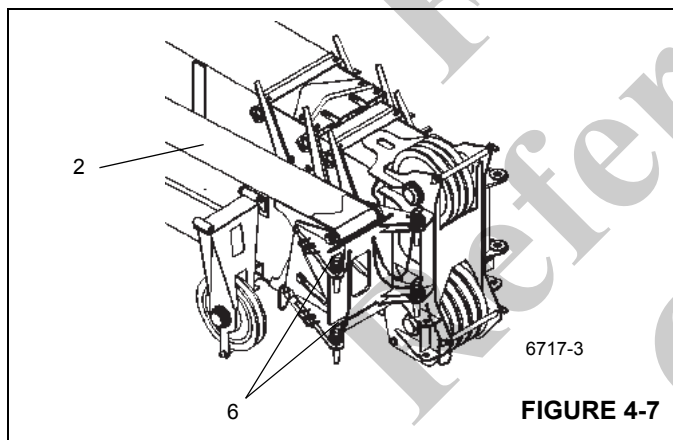

FIGURE 4-7
4. Remove the retainer clips from the right side attachment pins (6) (Figure 4-7) (Figure 4-10) stowed in the base of the boom extension and remove the attachment pins from the boom extension (2) (Figure 4-7) (Figure 4-10). Insert the right side attachment pins through the boom attachment and boom extension anchor fittings. Install the retainer clips in the attachment pins.